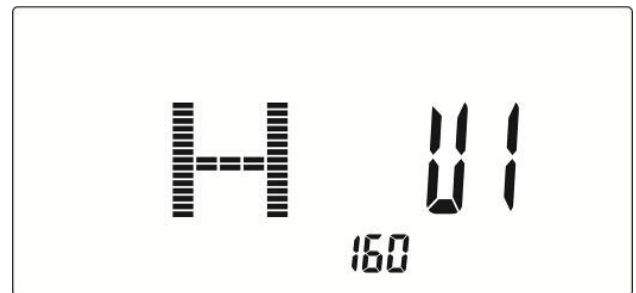

Figure 2
2. Enter your gender, age, height and weight (Fig. 2) and confirm each value with the Mode button.